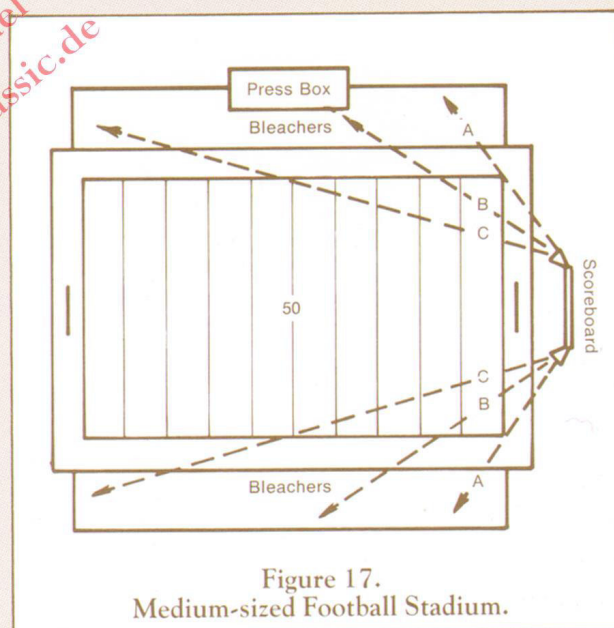

Figure 17.
applications. Such dispersion may be obtained over a limited but useful frequency range by vertical, lip-to-lip stacking of the horns. In general, each time the number of horns in the vertical stack is doubled (1) the vertical dispersion angle is halved and (2) the on-axis sound pressure level is doubled (increased by 6 dB.) 3 dB results from the doubling of electrical power fed to the entire array and 3 dB is due to confining acoustic output to a narrower vertical angle. Horizontal dispersion is not affected by vertical stacking. This could be useful in the example of Figure 17.